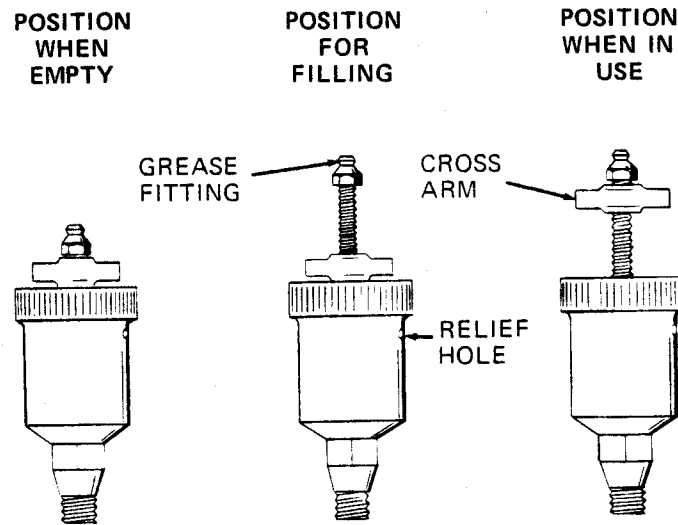

Figure 3. Automatic Lubricating Grease Cup
Before removing the seal assembly, turn the cross arm on the seal grease cup (18) clockwise until it rests against the cover (see figure 3). This will prevent the grease in the cup from escaping after the seal is removed.
Before starting the pump, fill the grease cup through the grease fitting with a good grade of No. 2 pressure gun grease until grease escapes from the relief hole. Turn the grease cup arm counterclockwise until it is at the top of the stem; this will release the spring to apply grease to the seal (see figure 3).